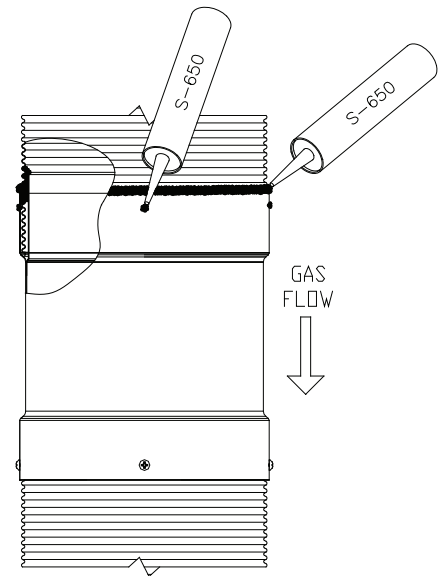

Figure 23 -DuraSeal Flex S-650 caulking
- 3.3. Push the adapter on the liner all the way in, until you can't see the mark made on the flexible liner earlier. Add a bead of the S-650 red caulking all around the outer junction of the adapter and the flexible liner to make sure everything is well sealed. Also add over the screw holes (**Figure 23**).